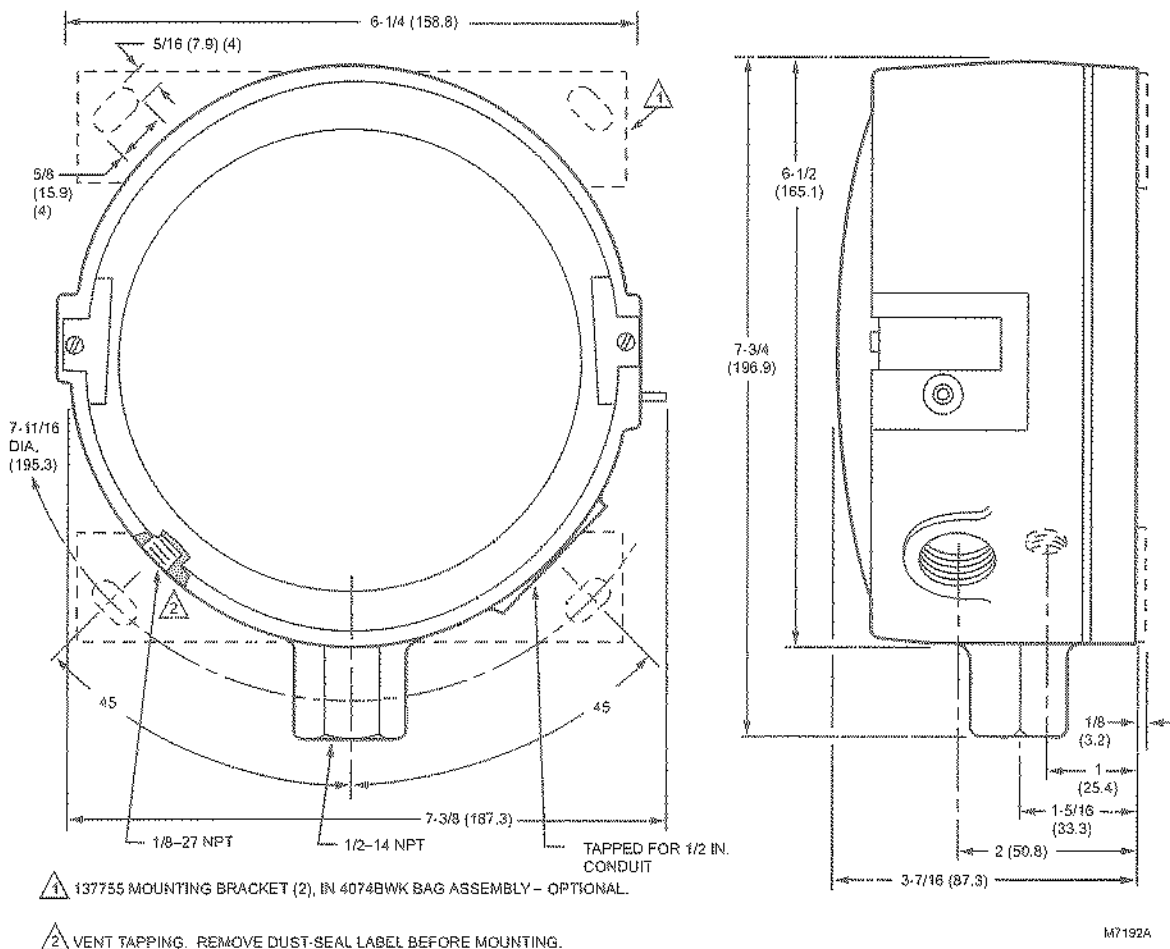
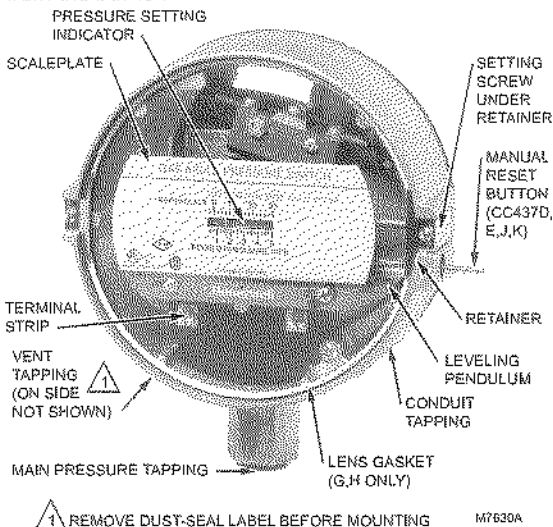

Fig. 1. Installation dimensions of the C437 gas pressure switches, in in. (mm).
Fig. 2. Principal parts of the gas pressure switch.
4074BWK Bag Assembly: Contains two 137755 Mounting Brackets and four self-tapping screws: for surface mounting. Mounting brackets are shown by dashed lines in Fig. 1.
Fig. 1 shows the mounting dimensions for the C437 models, and for the accessory mounting bracket. See Fig. 2 for the individual components.
Remove the retainer and adjust the setpoint for the desired operating pressure (cutout pressure) by turning the setting screw (Fig. 2) clockwise  to increase the setpoint and counterclockwise  to decrease it.
To reset one of these pressure switches, wait until the pressure falls to the setpoint minus the differential (C437D), or rises to the setpoint plus the differential (C437E). Then depress the manual reset button (Fig. 2) and release it. The pressure
- Put the system into normal operation, and set the pressure switch at the normal setpoint (above the normal operating pressure). Turn the setting screw (Fig. 2) slowly toward a lower pressure setting (counterclockwise ) to simulate a pressure increase.
- Push the manual reset button (Fig. 2) on the C437D; the C437D should make contact.
- Open the gas shutoff valve to increase the pressure again. When the pressure rises to the setpoint plus the differential, push the manual reset button (Fig. 2) on the C437E; the C437E should make contact.